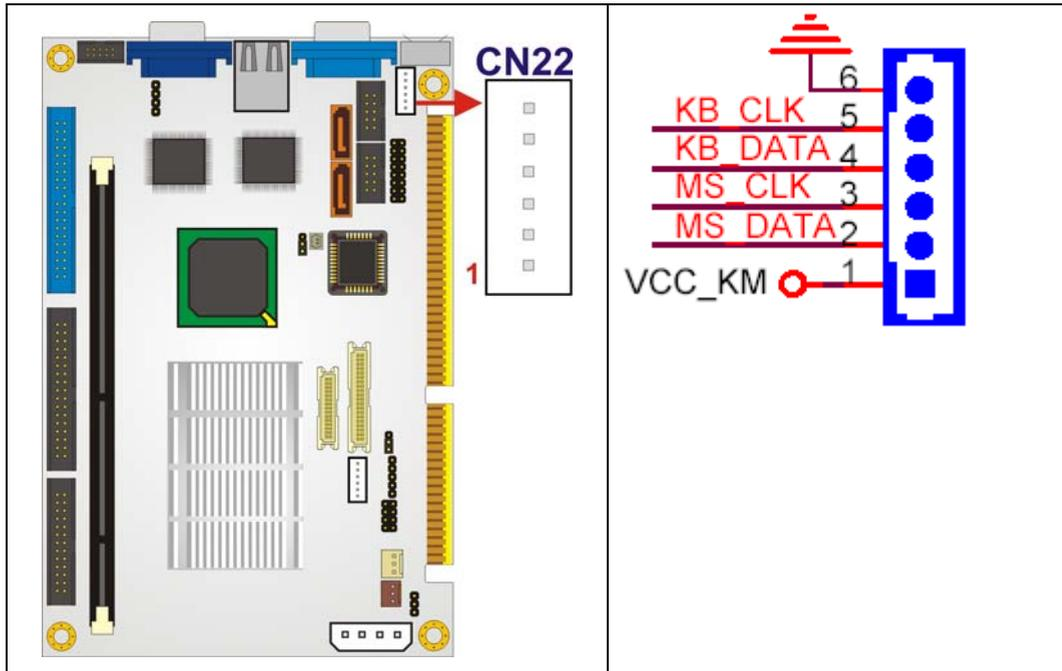

Figure 4-16: Keyboard/Mouse Connector Location
- CN Location:** See Figure 4-16